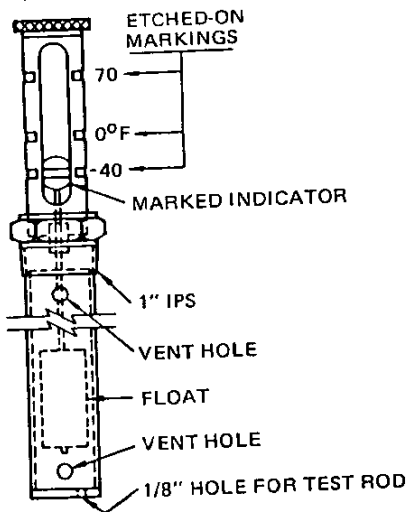

Figure 7
- D. If deaeration has reduced the oil volume, add more oil to the appropriate point on the oil level gage (Figure 7).